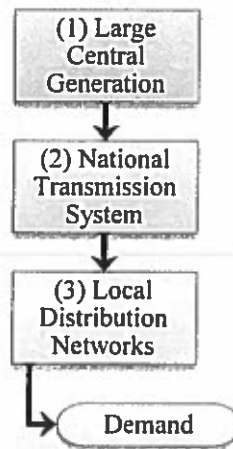

Figure 1
1. Structure of the conventional power system is presented in Figure 1.